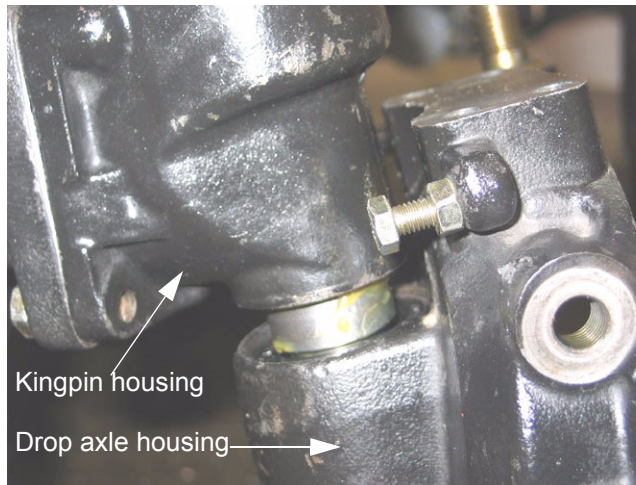

Figure 7.9
- 7.9. The drop axle housing can then be pushed down off of the kingpin housing with some twisting and light force. See Figure 7.9.